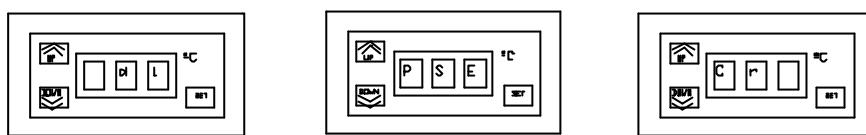

fig 53
-Simultaneously activate core probe selector (1) and SET (2), holding SET down for approximately 4 seconds until "d1" appears on the display (3). (fig 53)